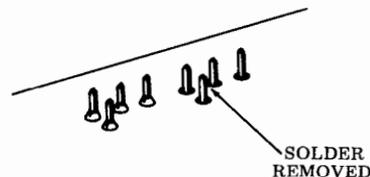

Fig. 10—Solder Removal
- (c) Remove solder from around terminal pins of keyswitch to be removed (Fig. 10).